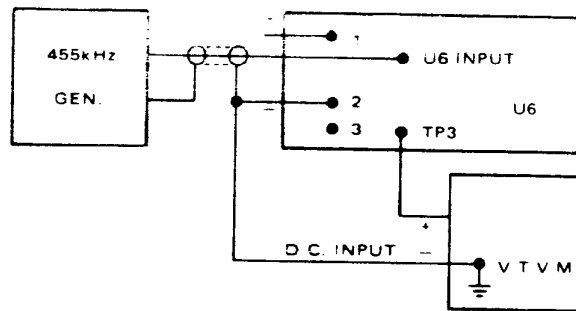

Figure 2
1. Set up the equipment as shown in Figure 2.
5. To check the discriminator, vary the input frequency by 5 kHz (N) or 15 kHz (NW) and check that the change of output is  $\geq 1$ V (N) or  $\geq 2$ V (NW).